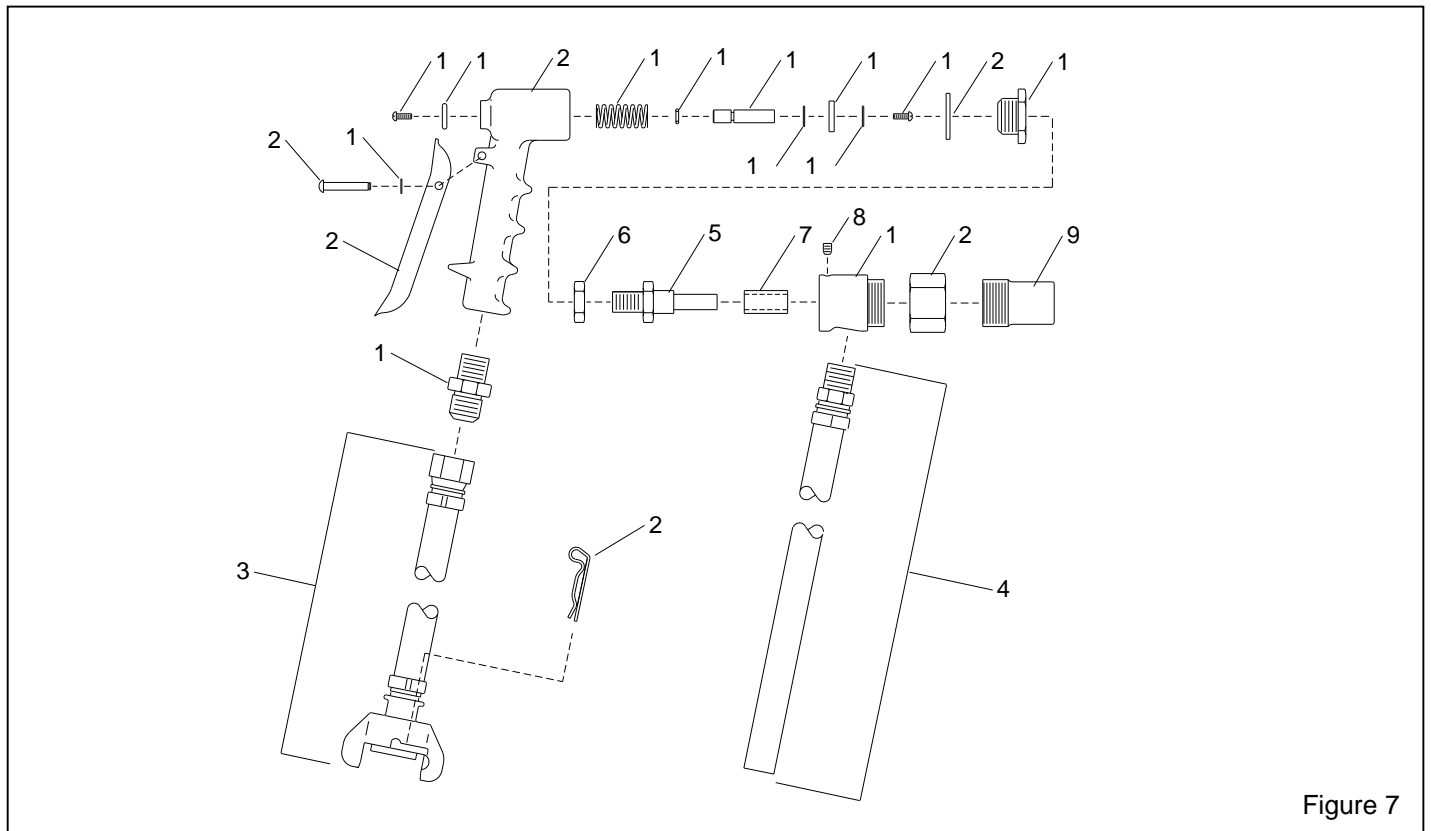

Figure 7
8.3 SGLH, Suction gun less hopper, includes gun assembly, nozzle, and hoses, Figure 7